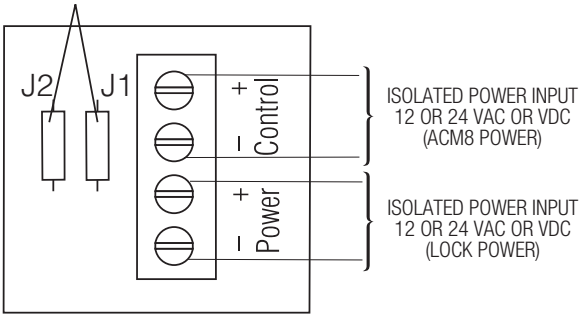

Fig. 4 Polarity reversal input from FACP signaling circuit output (polarity is referenced in alarm condition):
7. **Fire Alarm Interface options** (*Figs. 4 through 8, pg. 8*):
FACP INTERFACE T, + INPUT -	Fire Alarm Interface trigger input from FACP. Trigger inputs can be normally open, normally closed from an FACP output circuit ( Fig. 4 through 8, pgs. 8-9 ).